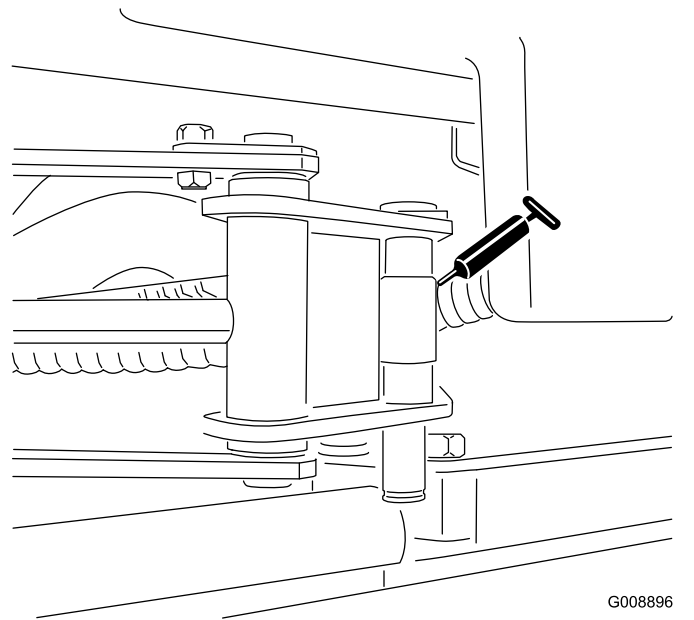

Figure 58
- Sidewinder cylinder ends (2 fittings; Model 03171 only—Figure 58)